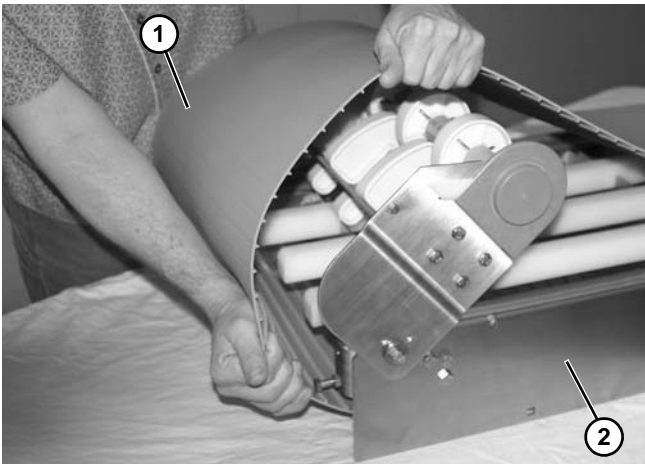

Figure 11
4. Position the belt (**Figure 11, item 1**) onto the conveyor (**Figure 11, item 2**).